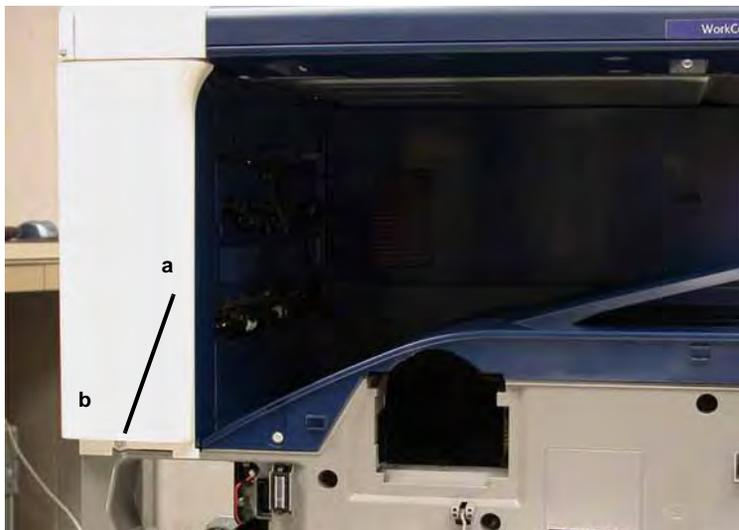

Figure 3 Removing Covers
4. Remove the Front Left Cover and Exit Front Cover (Figure 3).
- a. Remove Screw (1).